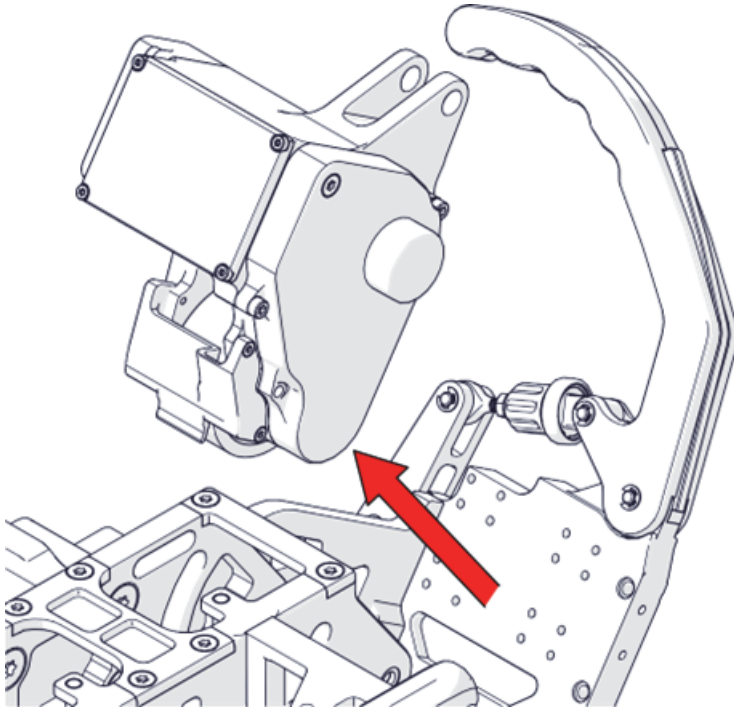

Figure 2-32 Remove the motor module
12. Remove the motor module from the motor carriage (see Figure 2-32 on page 105).